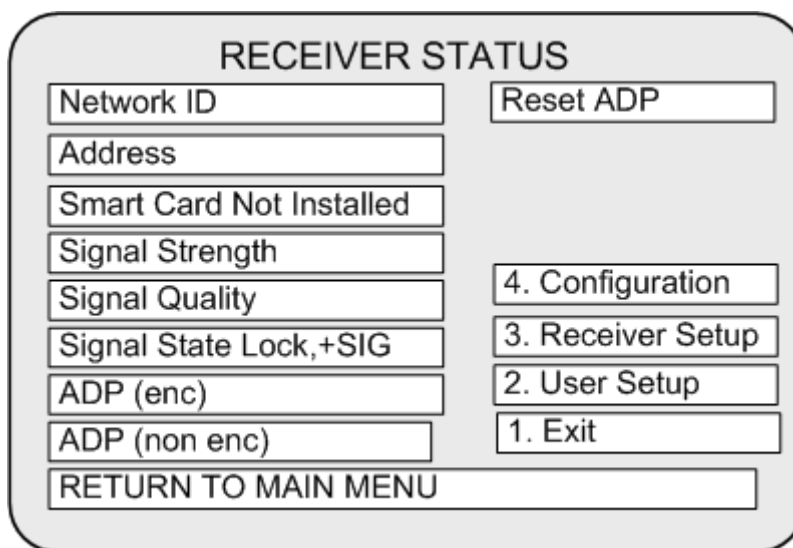

Figure 4-9 Receiver Status Menu
8. Display the RECEIVER STATUS MENU by pressing 2 and then SELECT, or move to Receiver Status using the scroll arrows on the remote control and press SELECT. See Figure 4-9 for example.